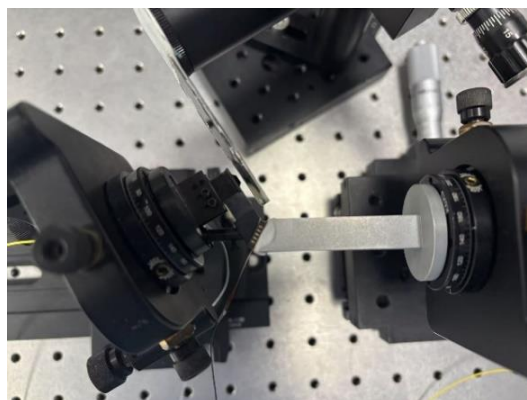

Figure 4.4 Imaging fluorescent beads on a slide
Step 40. Place a fluorescent bead slide on the single -axis translation stage (#34) (Figure 4.4).